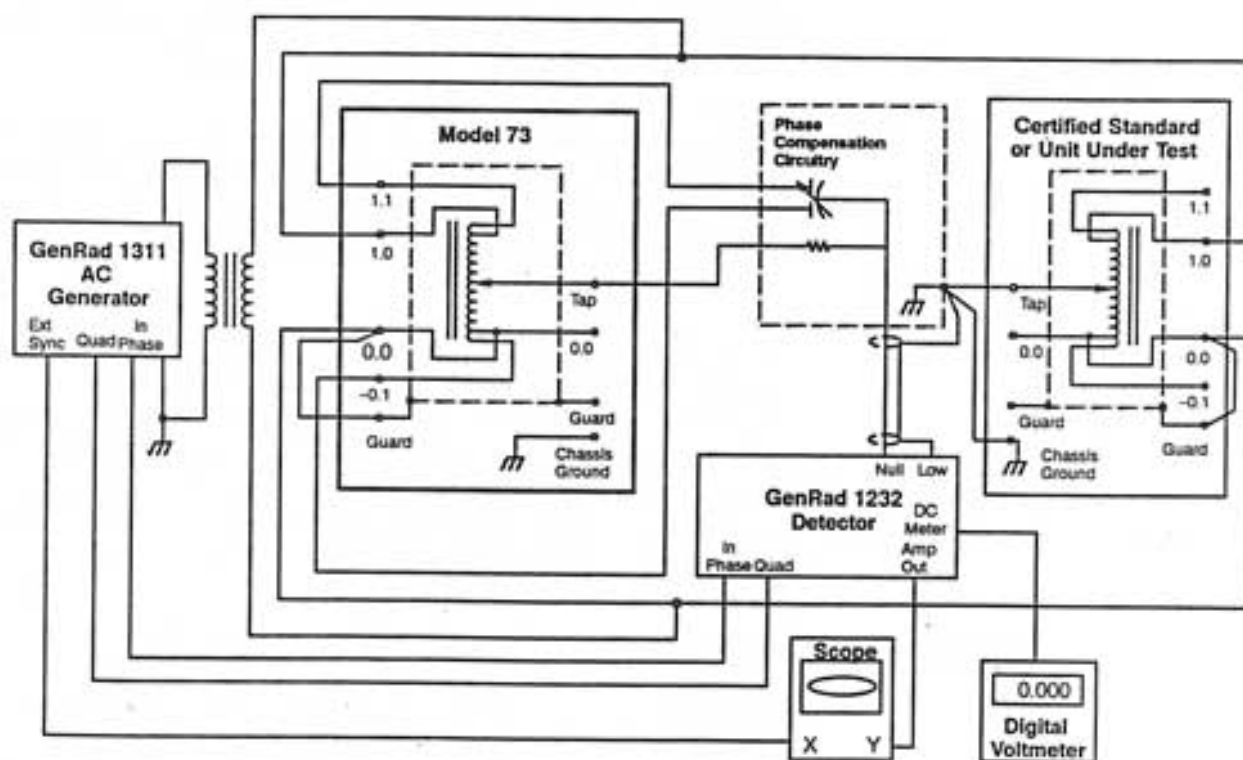
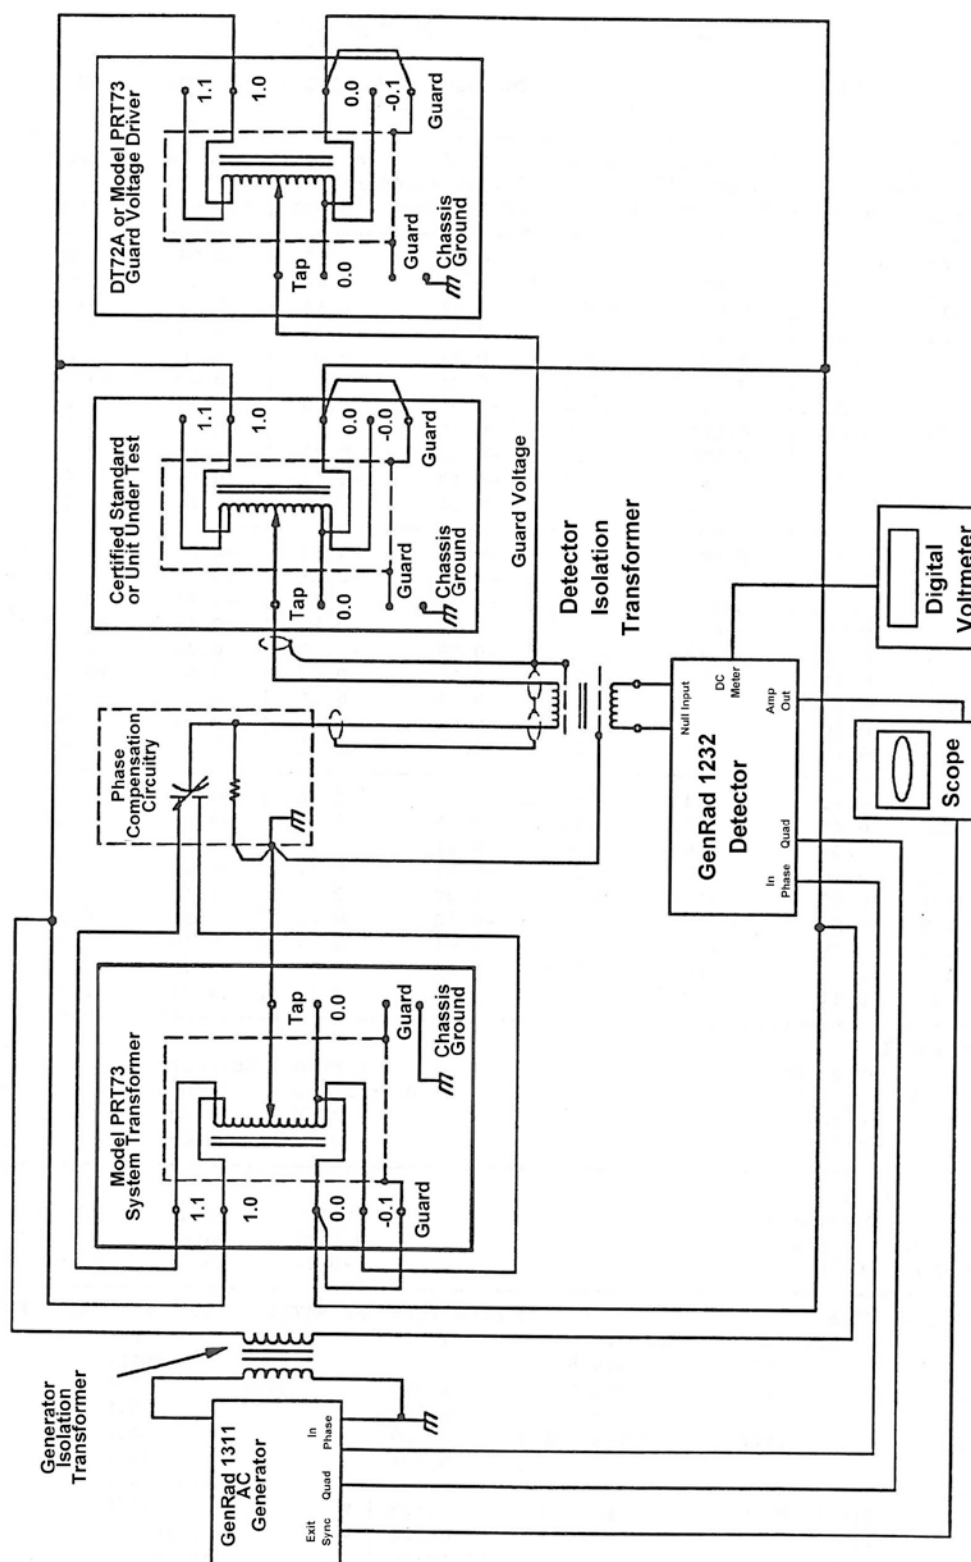

Figure 8-2. Alternate Test Equipment Setup for Testing Linearity.
Figure 8-3. Test Equipment Setup for Testing Linearity
The test system setup is shown in Figure 8-3. This is a generic representation of the equipment setup. Refer to the specific equipment's documentation for detailed connections. An alternate system setup is shown in Figure 8-2. The alternate setup does not use the detector isolation transformer which may affect the accuracy of your incremental linearity measurements depending on the type of equipment used. When you are making measurements at 5 kHz or greater, you may need to remove the connection between the low input and guard on the certified standard to reduce high and low end offset errors in your measurements.
NOTE: The alternate setup shown in Figure 8-2 does not use the detector isolation transformer which may affect the accuracy of your incremental linearity measurements depending on the type of equipment used. When you are making measurements at 5 kHz or greater, you may need to remove the connection between the low input and guard on the certified standard to reduce high and low end offset errors in you measurements.
1. Set up the test system as shown in Figure 8-3 or Figure 8-2 with the certified standard in place of the UUT. All test equipment is setup for measuring the deviation between the test system ratio transformer and the certified standard at 100 V and 1 kHz (or 10V at 100 Hz).